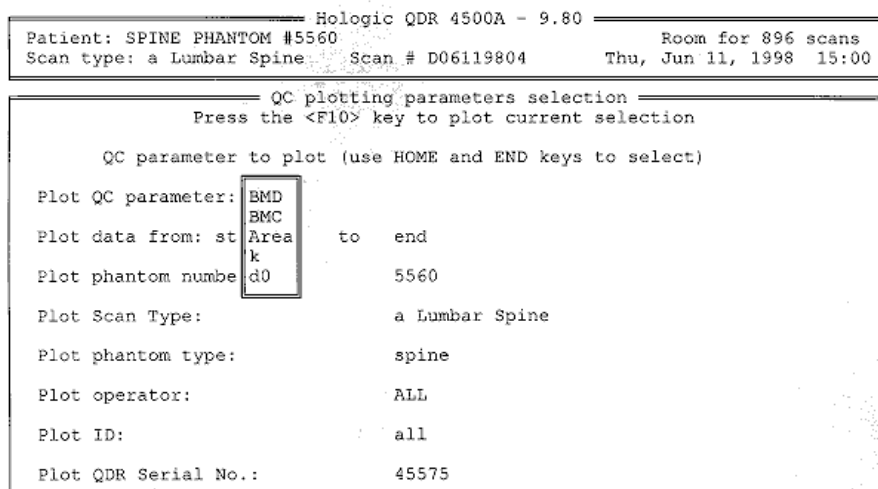

Figure 6-9. Spine phantom QC – parameters to plot
- Use the 'End' key to highlight 'BMC.' (The 'Home' key and the 'End' key are used to toggle between BMD and BMC.) See Figure 6-9.